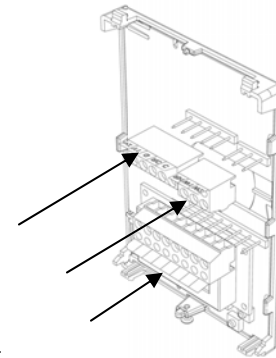

Fig.5
- 11- Gently push the excess wiring back into the hole. **(Fig. 5)**
- 12- Re-install wiring terminals in their correct locations. **(Fig. 5)**